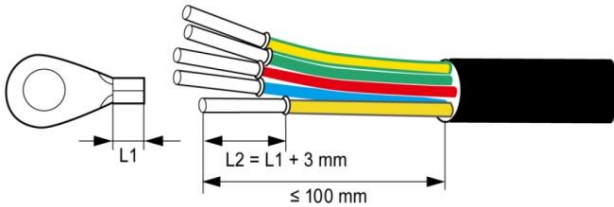

Fig 5.6 Crimp cable terminal
(1) Connect the four wires of the three-phase public power grid L1, L2, L3 and N to the AC connector interface according to Table 5-1, and connect the grounding wire to the grounding point on the outside of the chassis, and ensure that the conductors are not exposed and crimped firmly, As shown in Fig 5.6;